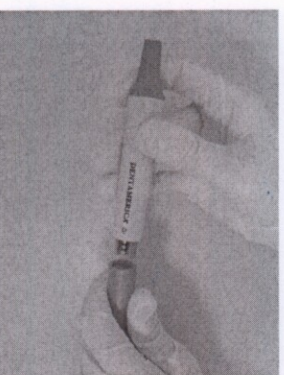
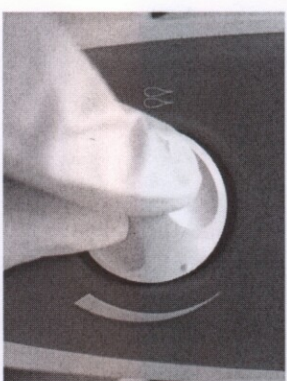

Figure 16
Figure 15
| No scaling, no water                    | <ol style="list-style-type: none"> <li>1. Make sure the power supply is properly connected.</li> <li>2. Make sure the ⓪ button on the front panel lights up. If not, check the fuse Input (Figure 15), fuse Output (Figure 16) and replace if necessary.</li> <li>3. Check if the foot pedal is broken.</li> <li>4. Make sure the scaler insert is inserted firmly into the handpiece base.</li> <li>5. Return the unit to local dealer for repair.</li> </ol>  |
To separate the two, firmly pull the upper portion of the handpiece away from the darker colored lower portion (Figure 16).
5. Rotate the water dial on the front panel in a clockwise direction to regulate the water flow through the handpiece (Figure 15).